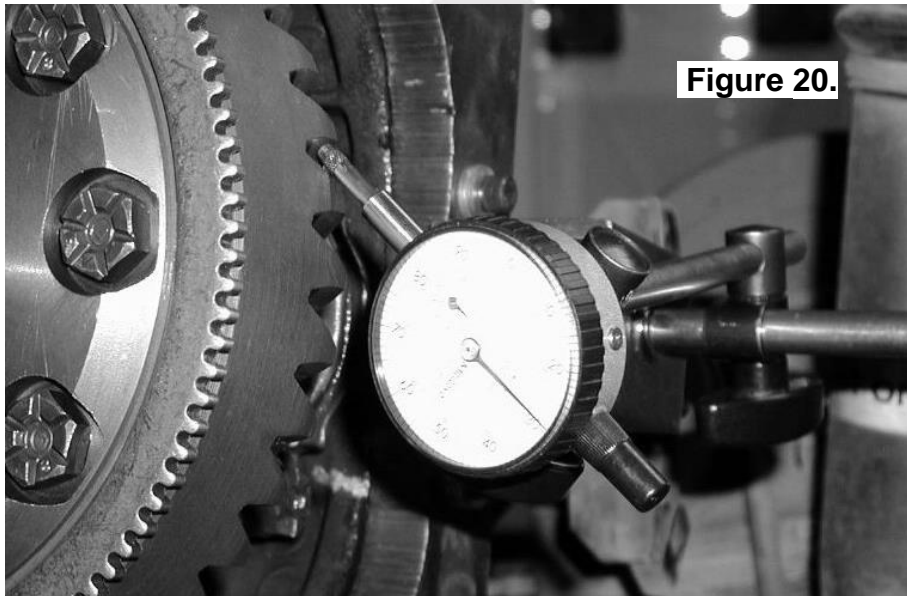

Figure 20.
- Set a plunge type dial indicator on one of the ring gear teeth as in Figure 20.